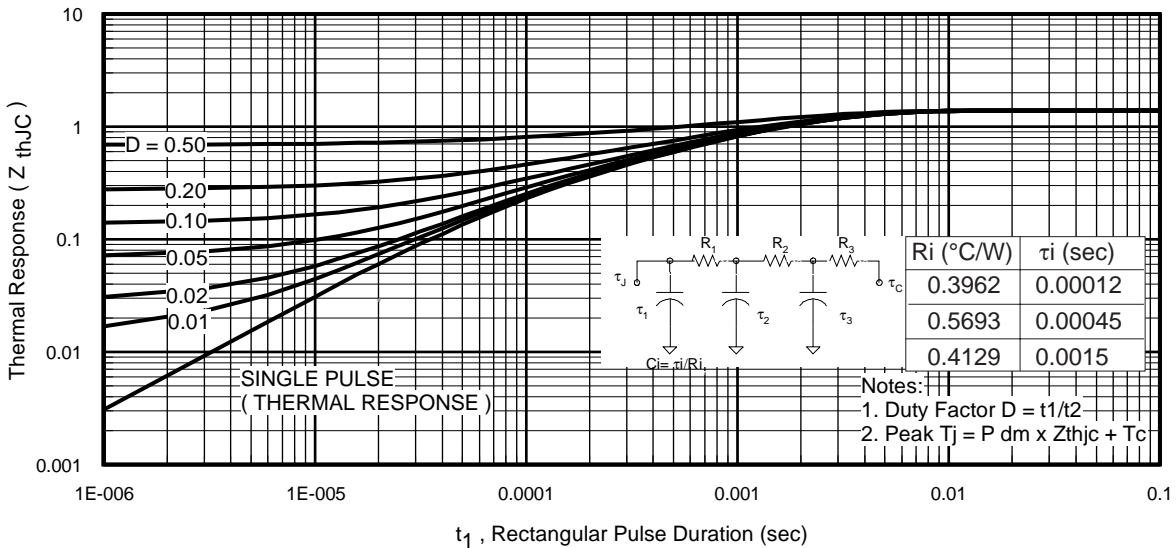

Fig 11. Maximum Effective Transient Thermal Impedance, Junction-to-Case
$Z_{thJC}(D, t_{av})$ = Transient thermal resistance, see figure 11)
- ① Repetitive rating; pulse width limited by max. junction temperature. (See fig. 11).
- ② Limited by T_{Jmax} ; starting $T_J = 25^\circ\text{C}$, $L = 0.08\text{mH}$, $R_G = 25\Omega$, $I_{AS} = 36\text{A}$, $V_{GS} = 10\text{V}$. Part not recommended for use above this value.
- ③ Pulse width $\leq 1.0\text{ms}$; duty cycle $\leq 2\%$.
- ④ C_{OSS} eff. is a fixed capacitance that gives the same charging time as C_{OSS} while V_{DS} is rising from 0 to 80% V_{DSS} .